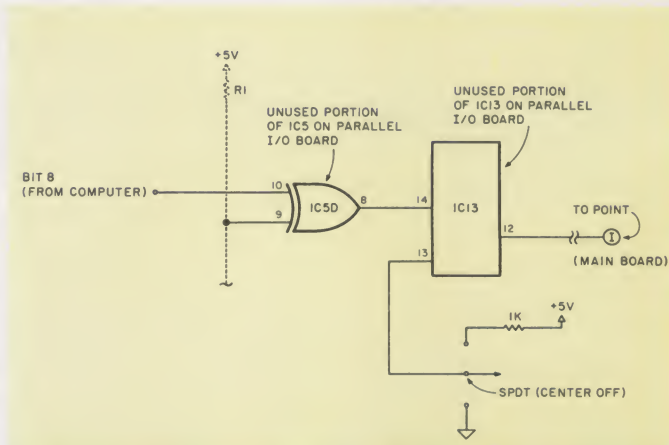

Fig. 5. Modifications on the parallel I/O board to permit computer control of the image-reversal bit.
- Connect pin 13 of IC13 to center off SPDT switch (see Fig. 5).
To provide computer control of the background, I modified my parallel I/O board as shown in Fig. 5. I connected pin 9 of IC5 on the parallel I/O board to the true/inverted bus (the line that pins 2, 5 and 12 of IC5 are connected to). Pin 10 is connected to bit 8 of the data byte from your computer. Pin 8 is connected to pin 14
Modifications to the parallel I/O board to allow for computer control over the image-reversal bit. Circuit is shown in Fig. 5.